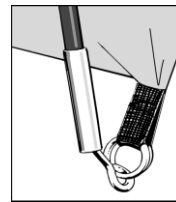

Figure 1.
- Loosen the tension adjusters at the base of the flysheet and insert the steel legs into the curved roof pole section, and locate the ring and pin into the bottom of the steel legs. (See figure 1) Clip the flysheet to the steel pole on each side.
- Locate rear bedroom pole through sleeve at rear and locate into pin as per fig 1.
1. Locate one end of each pole onto the corresponding metal pin. The metal pin inserts into the hollow metal ferrule on the end of each pole. **(See Figure 1)**. Push the pole into a curve from the opposite side, one at a time, and locate all pole ends onto the metal pins.